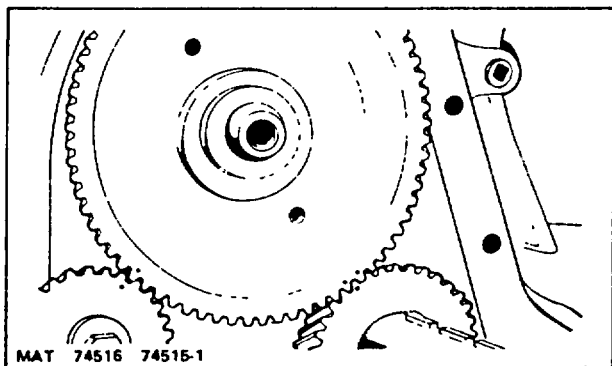

Figure 58. Timing Gears Assembled According to Timing Marks
8. Drive the crank gear on the shaft making sure that the marked teeth on the cam gear straddle the marked tooth on the crank gear (Figure 58) which assures that the crankshaft and camshaft are in time.